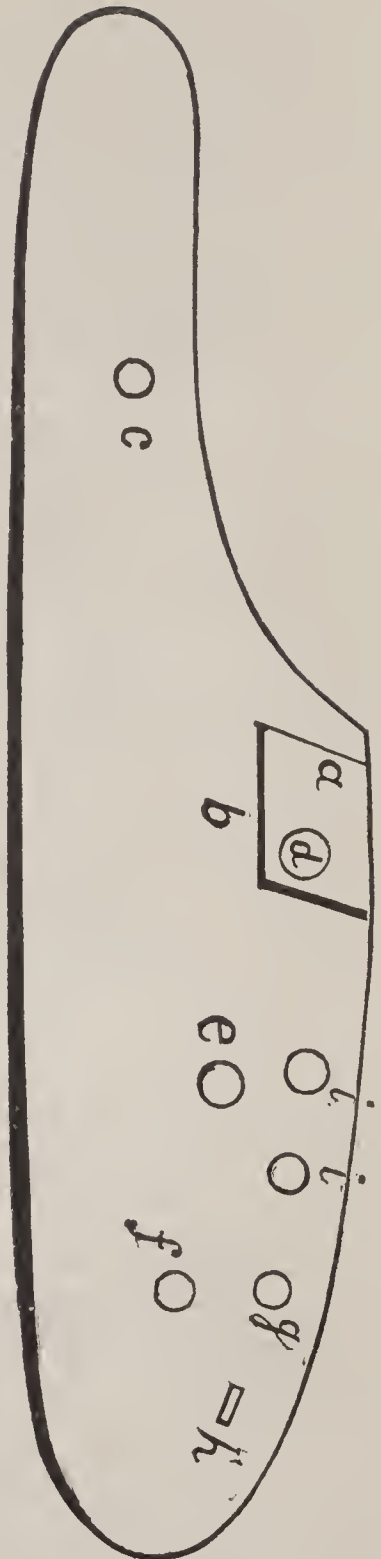

FIGURE 79.
*Nomenclature of the Lock-Plate.*—The names of different portions of the lock-plate, Fig. 79, are: *a*,